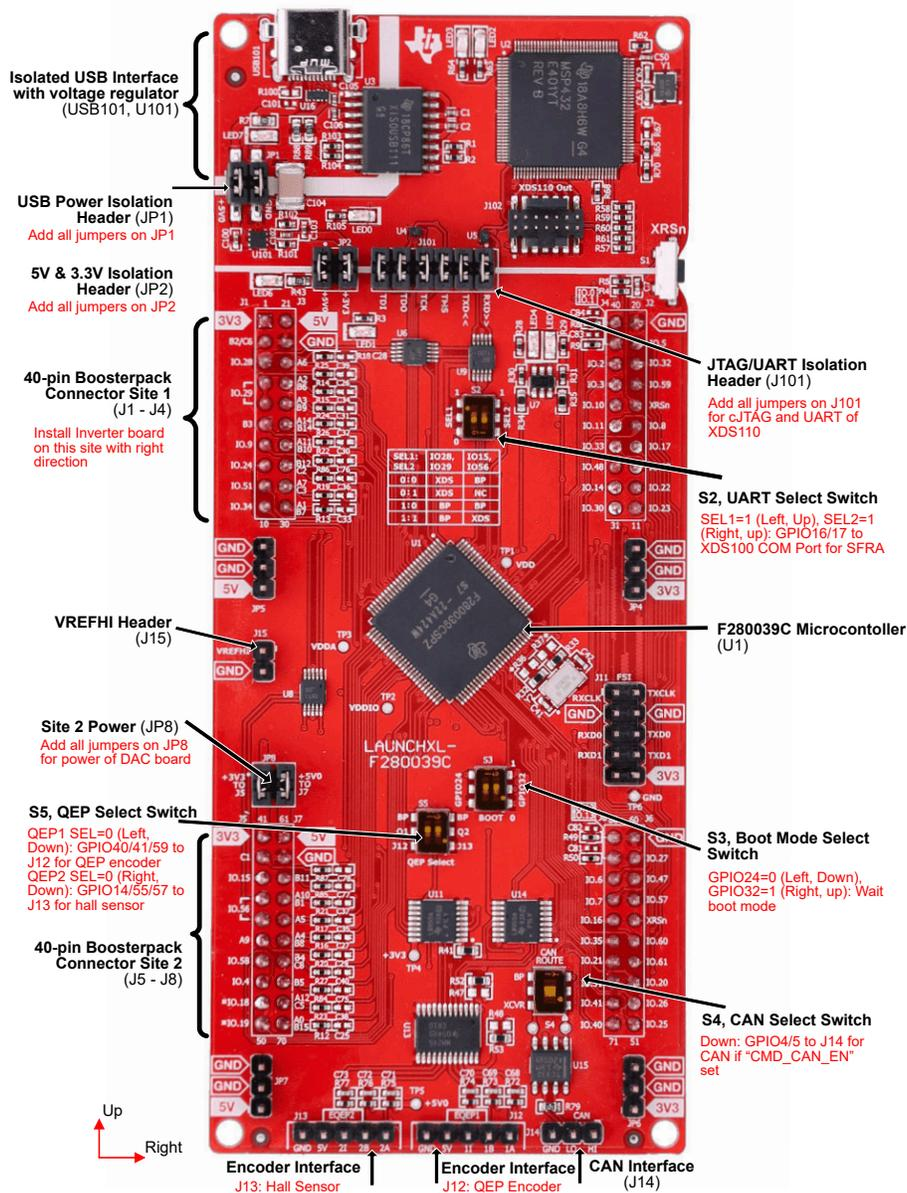

Figure 3-2. F280039C LaunchPad Board Overview and Switches Setting
- Make sure that the switches on the **LAUNCHXL-F280039C** are set as described below shown in **Figure 3-2**.
- For **S2**, position the SEL1 (LEFT) switch **UP** (1) to route GPIO28 and GPIO29 to the BoosterPack connector, and position the SEL2 (RIGHT) switch **UP** (1) to rout GPIO15 and GPIO56 to the virtual COM port of the XDS110 debugger.